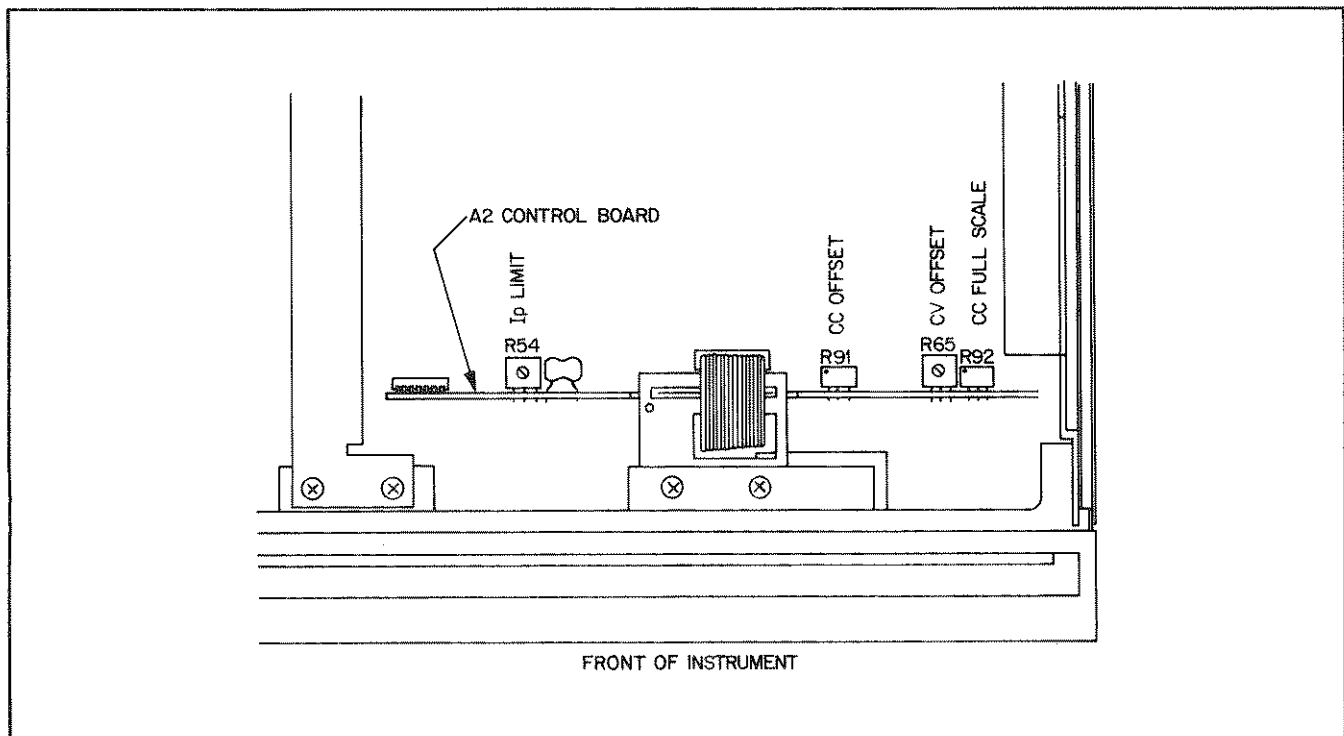

Figure 5-51. A2 Control Board Calibration Potentiometers
- j. Figure 5-51 shows the location of potentiometers used for service calibration on the A2 control board.